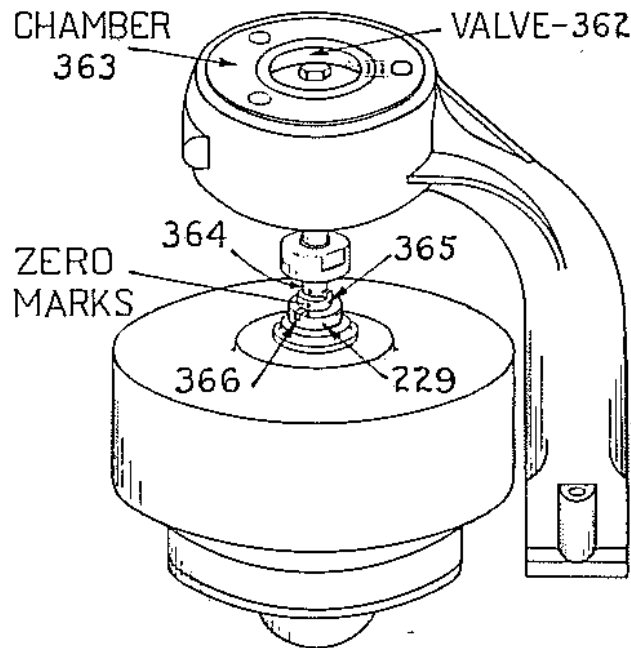

Fig. 15—Timing of Air Distributor.
fastened to the governor bracket. In reassembling, note that the lower end of the air distributor shaft is stamped with a zero (0). See Fig. 15 below. The coupling through which the shaft is driven, is also marked with a zero (0) as is the top of the governor shaft. When the three zeros are in line (one above the other), the distributor is timed correctly.
The rotary valve 362 has a figure 1 stamped on its upper face. This mark should be opposite the figure 1 on the distributor chamber when the fly wheel key is up on dead center, all as shown on Fig. 15. This method may also be used to check distributor timing.
The air distributor spindle or shaft which rotates the distributing valve, is driven from the governor through key 366 shown in Fig. 15. This key is designed to shear off if the free rotation of the valve is interfered with. Replacement can be easily made by using any suitable piece of square steel.